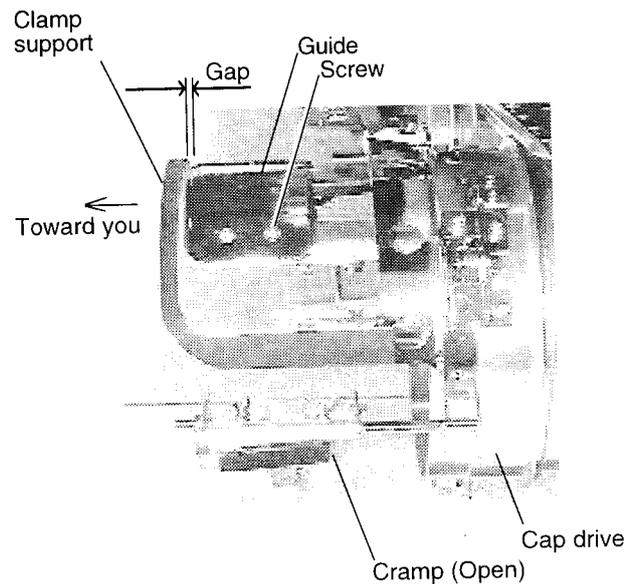

Fig. 4
At this time, adjust so that guide on cap drive frame doesn't strike clamp support and gap is reduced as small as possible. Remove screws at left and right to adjust. (Fig. 4)
2. Adjust the guide position to suit the height of the cap. Remove screws at left and right to adjust. (Fig. 4)
6. As shown in Fig. 4, lift cap stretcher to tip forward. Hold cap with clips at two places in back by stretching crease toward arrow marked direction from front of the cap. At this time, hold nonwoven fabric under clothing fabric with clips together.